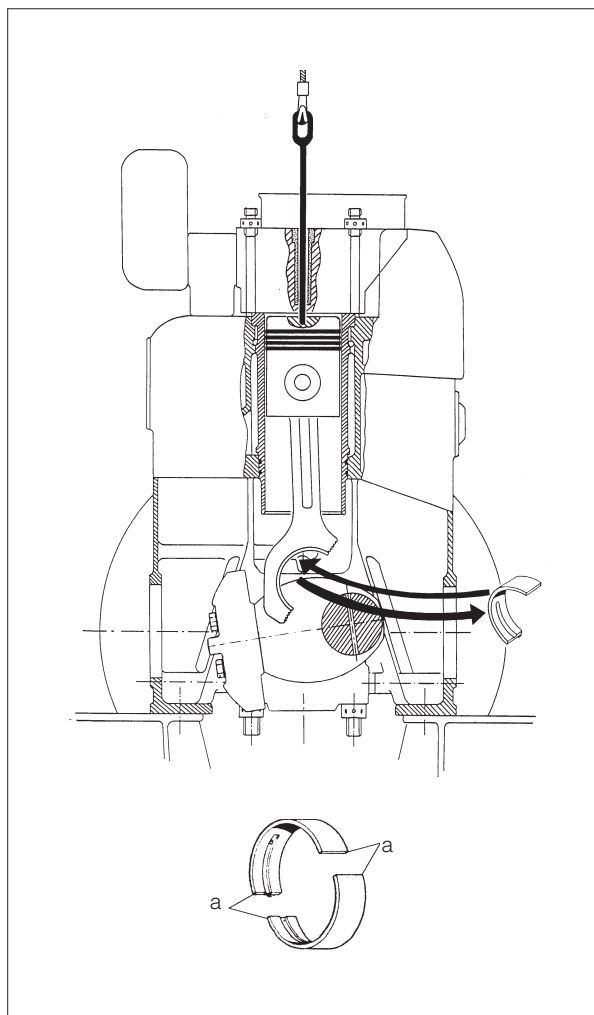

Fig 2.
- 4) Insert the long-eye bolt and screw it into the thread hole in the piston, see *fig 2*.
- 5) Tighten it slightly by means of a tackle, see *fig 2*.
Note: the piston/connecting rod should be lifted further then, just to allow dismantling of the upper bearing shell, see *fig 2*.